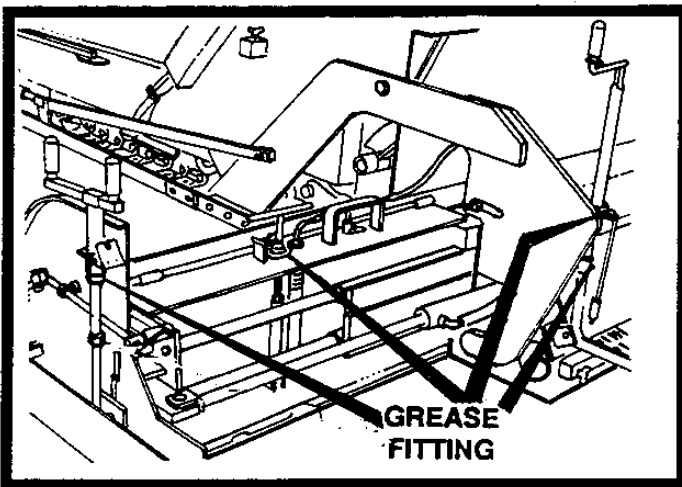

FIGURE 28
5. For both sides of the screed, lubricate all grease fittings on the flight screw, the fitting on the depth screw and the fitting on the flange bearing located on top of the extension screed. See figure 28.